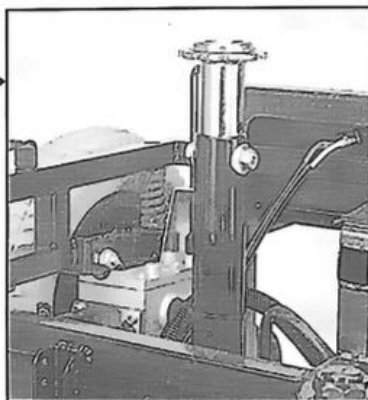

FIG. 8.1
3. Using a 17 mm wrench, remove the bolt securing the inner seat pedestal. (FIG. 8.1)